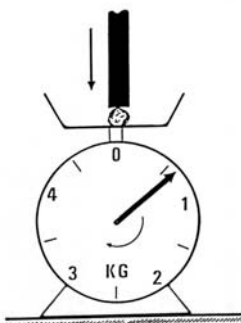

Fig. 26. Kitchen scale for measuring the grain strength.
- A) Grain strength** is measured by placing a fertilizer grain on an ordinary kitchen scale and pushing down the grain with increasing weight, for example with the back of a pencil, while the pointer follows. The weight, which is shown when the grain is smashed, is an indicator for the grain strength of the fertilizer. Make sure to try several grains (both big and small) and then calculate the average grain strength (fig.26).